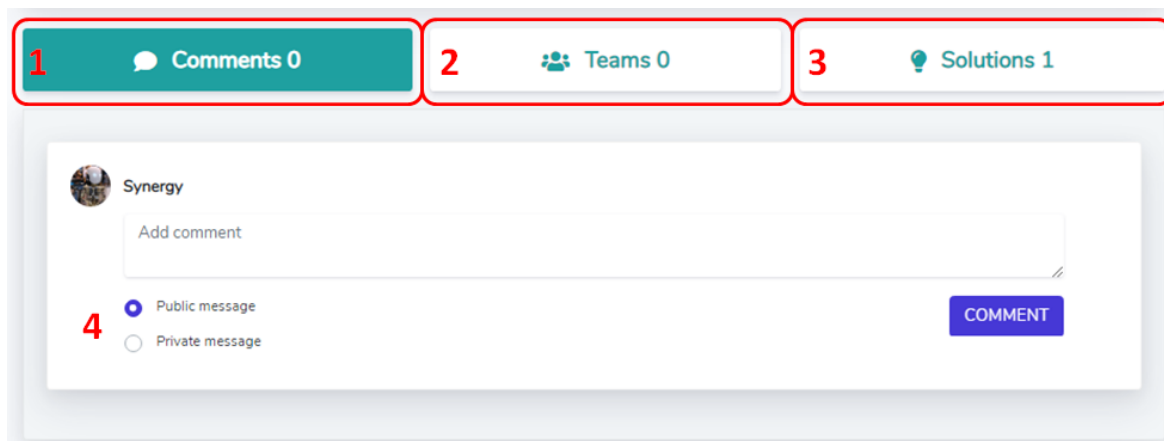

Fig. 17 Challenge support options
After selecting a challenge, the application redirects to its view (Fig. 17). Below the challenge data in the comments section (1) it is possible to send public comment visible to everyone and private visible only to the author of the campaign (4). After clicking the tab “Teams” (2) platform users can add a team that would like to solve the challenge. Non-team users can send a request to be added to the team. After clicking the tab “Solutions” (3) the list of submitted solutions of the challenge can be seen and users can add a new solution challenge.